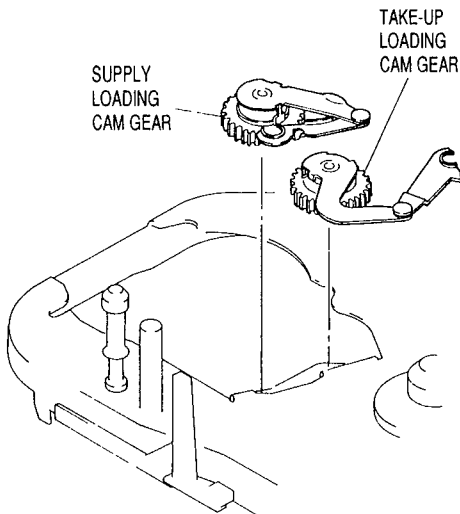

Fig. 3-25
- 1) Remove the supply loading cam gear and take-up loading cam gear. (See Fig. 3-25)